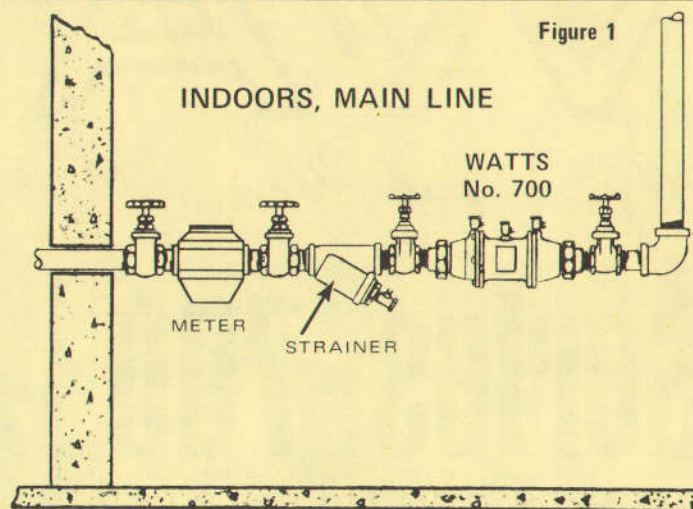

Figure 1
E. For indoor installations, it is important that the device be easily accessible to facilitate testing and servicing. Fig. 1.